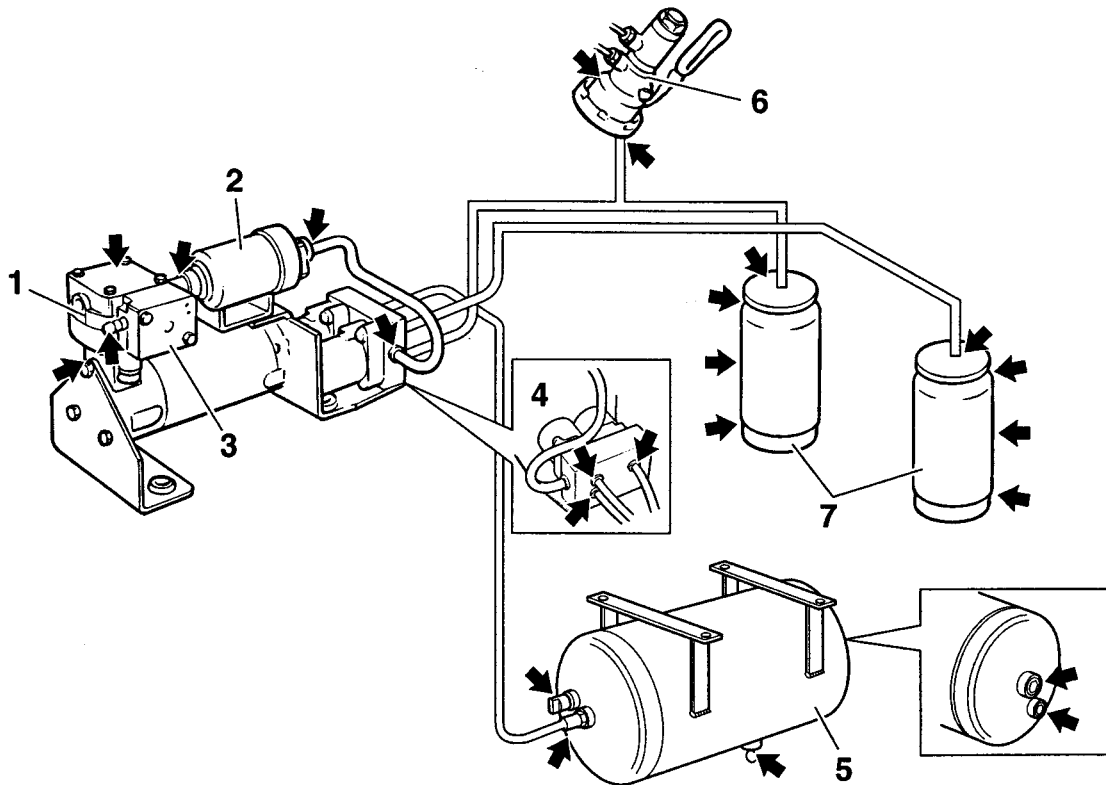

Fig.3 Air system potential leak points (arrowed)
13. If ride height or pressure decreases, then suspect an air leak. Carefully check for signs of damage or abuse to any component (see fig.3), especially the air harness and the connections.